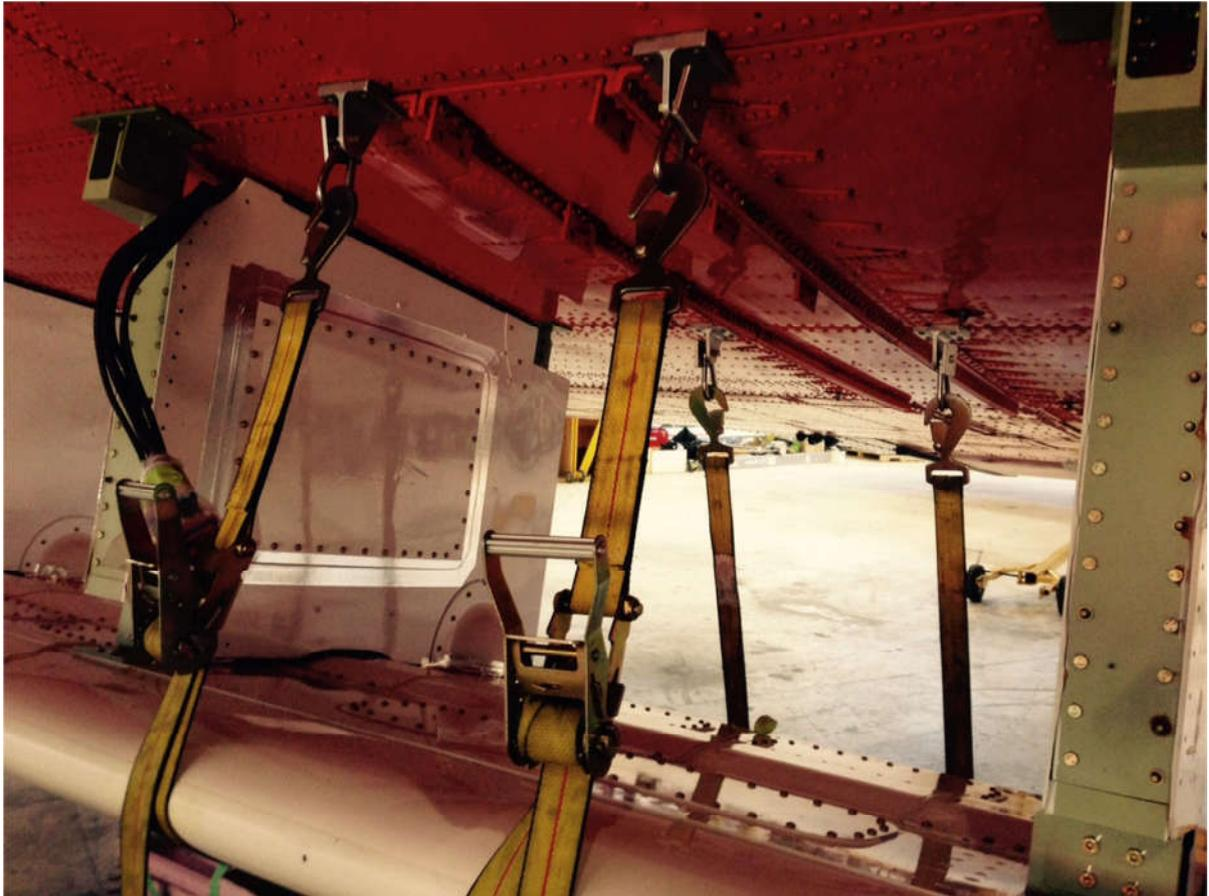

Figure 2-1: Fuselage shoulder bolts, clips and straps at EM-bird mounts
2. Attach provided lug adapters (2" plate washer) and spring hooks to the inboard forward and aft EM-bird mounts. (Figure 2-1).
3. Support array ~32" off the ground such that it rests a few inches below the lower fuselage using two Nansen sleds or several sawhorses. In the ideal height, the aft lugs should be just within the clevises in the resting position. Lay two 2" wide x 25' long ratchet straps below the array, cradling the array from the lower surface at the EM-bird mount wing stations, and attach each clip end of the strap to the above spring hooks (Figure 2-1) Use of a protective pad below the array is recommended to minimize abrasion of the exposed lower surface antennas. Advance the ratchet straps to be snug, but not yet lifting the array. Manually lift the trailing edge as required to insert long an3 bolts as temporary shear pins in one fastener position of each aft upper lug connections. Once the shear pins are in place, advance the ratchet straps to slowly raise/rotate the array into the forward upper pylon lugs. Position additional long an3 bolts into one fastener position of each aft upper lug connections.